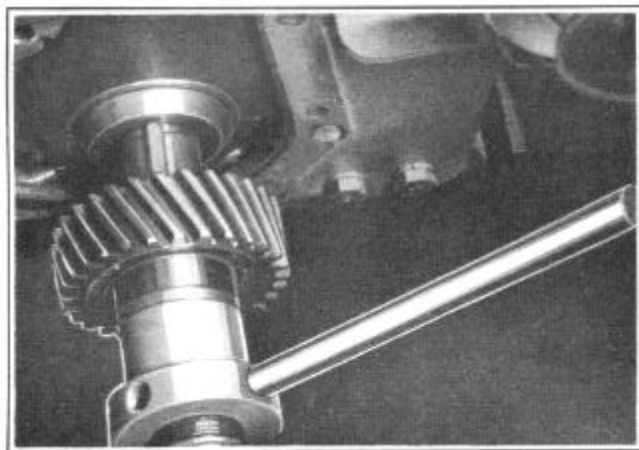

FIGURE 39
3. Turn press feed nut with driver handle, adding spacers until gear is forced into position, Figure 39.